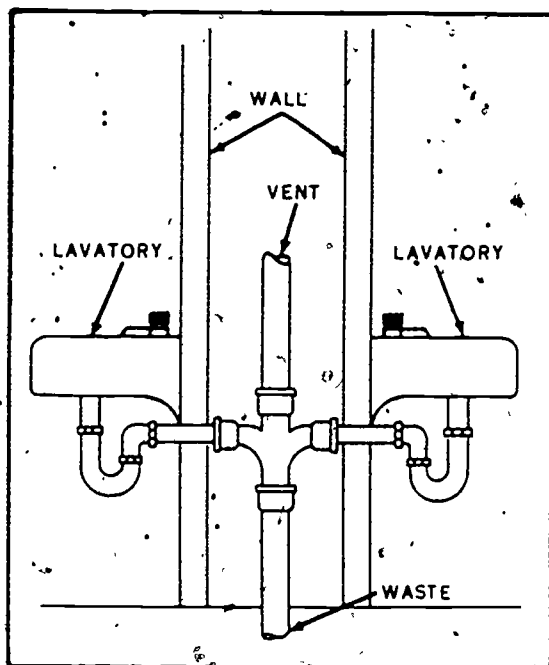

Figure 2-19 Pair of fixtures unit vented
**Unit vent.** Fixtures that are mounted side by side or back to back on a wall, as shown in figure 2-19, are unit vented. A unit vent, sometimes called a dual vent, is a vent pipe installed to protect two fixture traps. The vent pipe connects to the main vent when a stack is located nearby or may extend individually through the roof. When the vent extends through the roof, the vertical pipe may be referred to as a unit vent and drain instead of a waste stack.